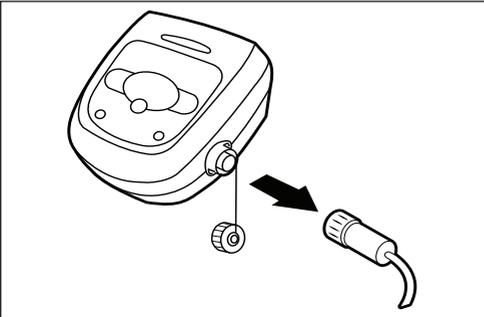

Figure 9. Unplug the Floating Cable
3. Unplug power to the cleaner at the control box. See Figure 9.